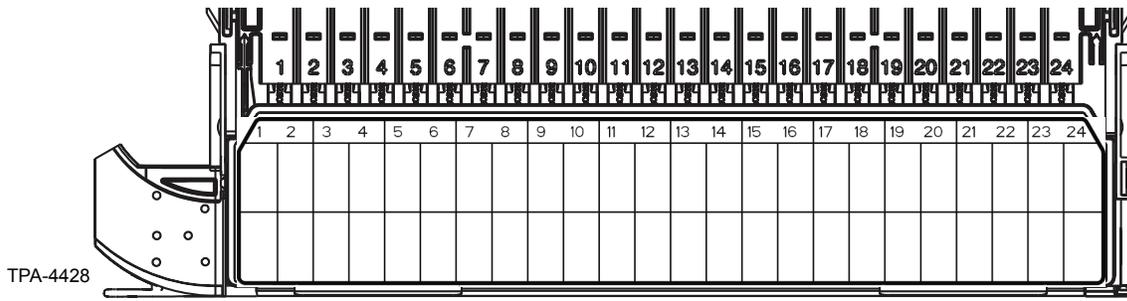

Figure 26
**Step 22:** Affix the designation label to the handle (Figure 26), if it is not already attached.